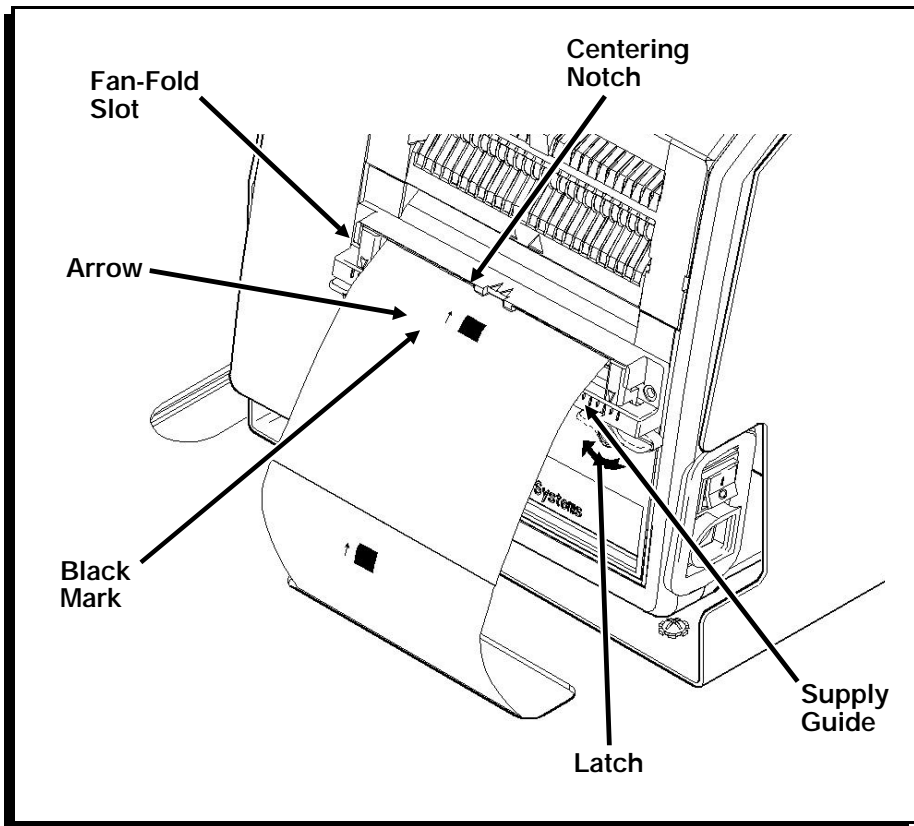

Figure 27
9. Feed the supply's leading edge into the printer's fan-fold slot. The black mark on the supply must be facing up; if it is not, flip the supply stack over. Make sure the arrow printed on the back of the supply points toward the printer. Center the supply in the printer by lining up the black mark within the centering notch. (Figure 27.)
10. Adjust the supply guides to the edges of the supply and turn the latches to lock the supply guides in place. (Figure 27.)